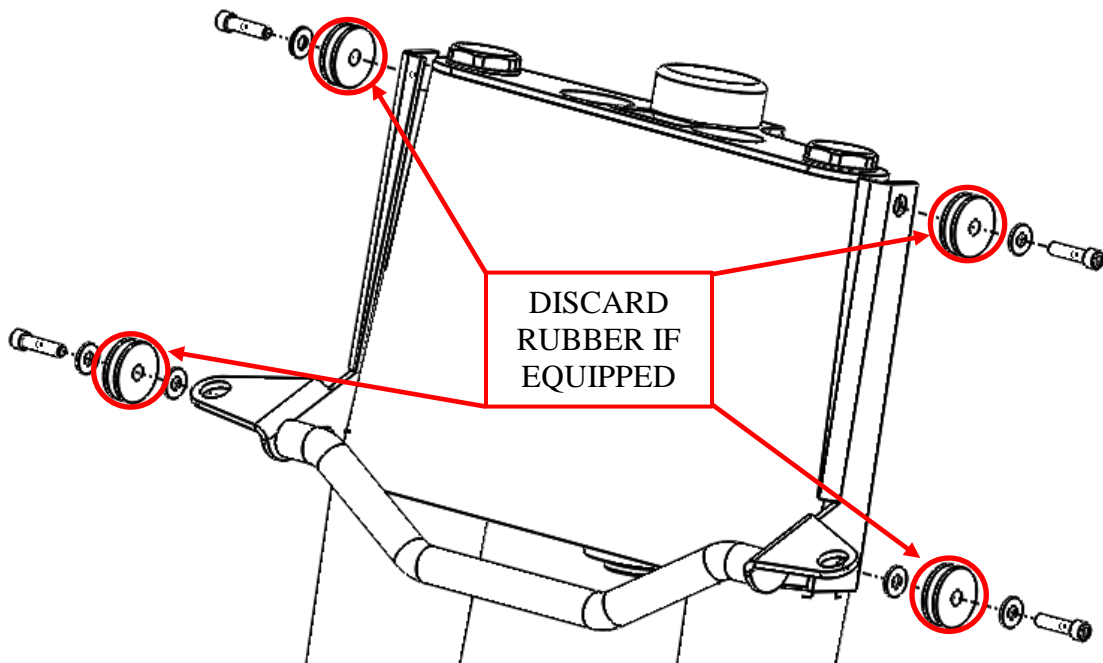

Figure 3: Remove hardware for windshield/spot lamps (if equipped) and discard rubber bushings.
2. Remove the factory hardware used to secure the spot lamps (if equipped) and/or the quick-detach windshield. Discard any rubber bushings used with the OEM windshield. You will replace them with the provided stainless bushings. See Figure 3. **Warning: Do not attempt to install your fairing with the OEM rubber bushings.**